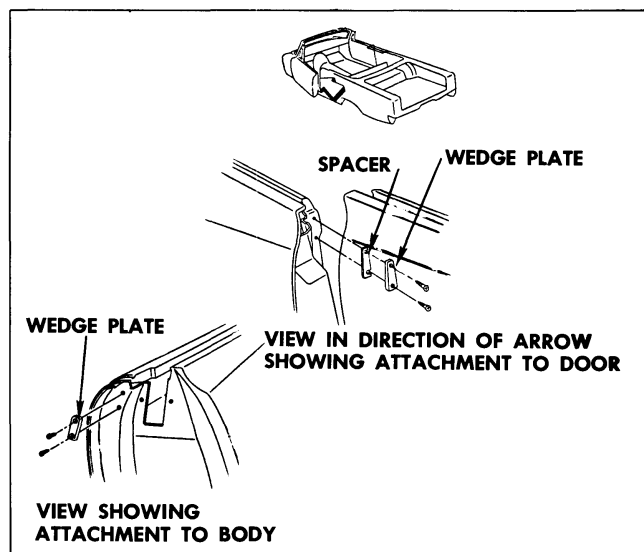

Fig. 12-19 Wedge Plate Installation
1. As an anti-squeak precaution and to prevent entry of water into door at hinge attaching bolt locations, coat attaching surfaces of hinges with heavy-bodied sealer prior to installing door (Fig. 12-19).
1. Remove two screws securing wedge plate to panel and remove wedge plate (Fig. 12-19).